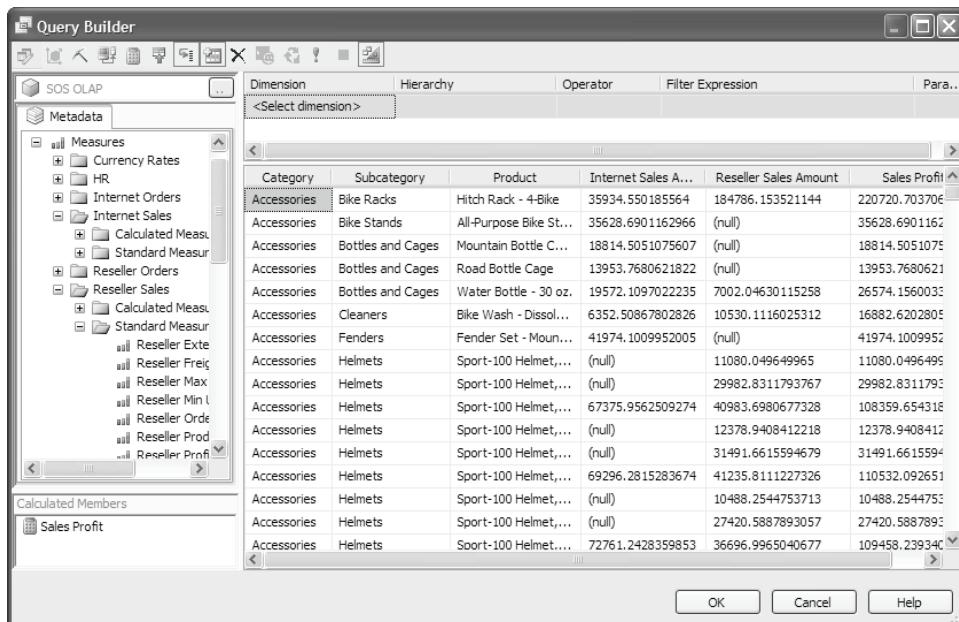

Figure 18.6 The Query Builder supports authoring MDX and DMX queries.
2. The Design Query step gives you an option to type (or paste) the query statement or use a query builder to assist you in constructing the query. Click on the Query Builder button. The Report Wizard launches the excellent Query Builder (Figure 18.6).
The Query Builder is available in both the Report Wizard and the Data tab of the Report Designer. The Query Builder supports two command modes when it targets UDM data sources. By default, the Query Builder is launched in MDX command type mode (Figure 18.6), which allows you to author MDX queries to create OLAP reports. If you need to author data mining reports, you can click on the pickaxe toolbar button to switch to DMX command type.